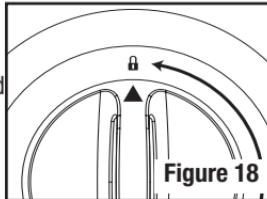

Figure 18
- To Replace Bug Basket.** Ensure bottom mesh door of Bug Basket is snapped securely in place, and the Basket is in the closed position. Line up the arrow ( $\blacktriangle$ ) on the Bug Basket with the “Unlocked” symbol ( $\text{U}$ ) on the top of the Vacuum Head and drop the Bug Basket in the intake area. Turn the Bug Basket handle counter-clockwise  $\leftarrow$  until the arrow ( $\blacktriangle$ ) on the Bug Basket aligns with the “Locked” symbol ( $\text{L}$ ) on the Vacuum Head (Figure 18). The Bug Basket will twist open (which you cannot see) and be ready to capture mosquitoes as you lock it in place.